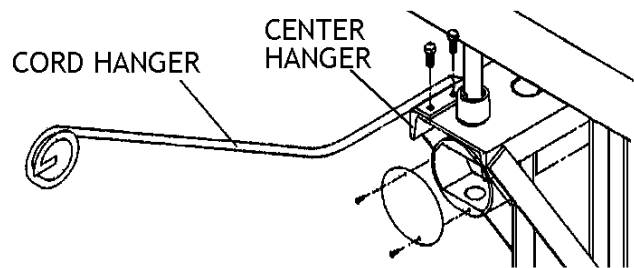

Fig. 23 – Attaching cord hanger on Fastir
- 46 Bolt cord hanger to top of center hanger with 5/16" x 1" bolts. Tighten using 1/2" wrench. See Fig. 23.